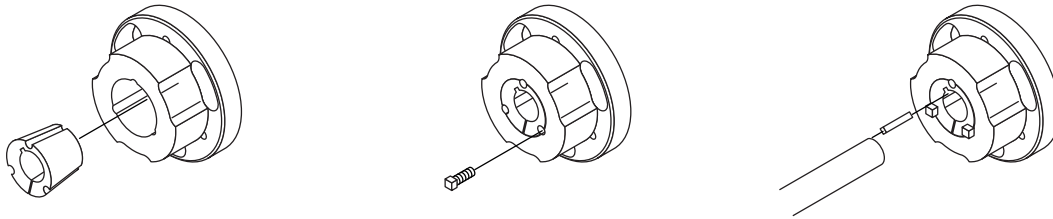

Figure 16- Bushing/Shaft Installation
6. Take the engine coupler halve and place a 1" bushing into the center of the coupler aligning the 3 open holes. Take 2 squarehead capscrews and screw finger tight into the two opposite holes across from each other on the bushing. Take 1/4" slotted key, install between bushing and slide coupler halve onto the engine shaft. Leave loose, go to step 7. Reference Figure 16.